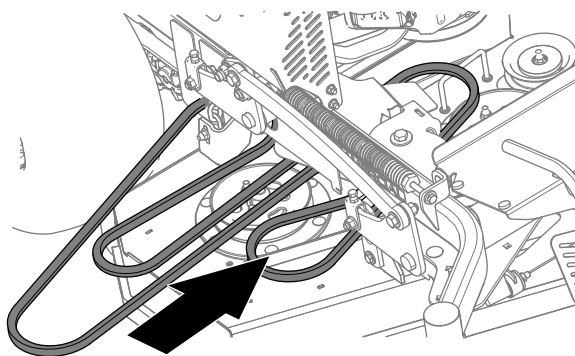

Figure 78
1. Assemble the belt into the deck (Figure 78).